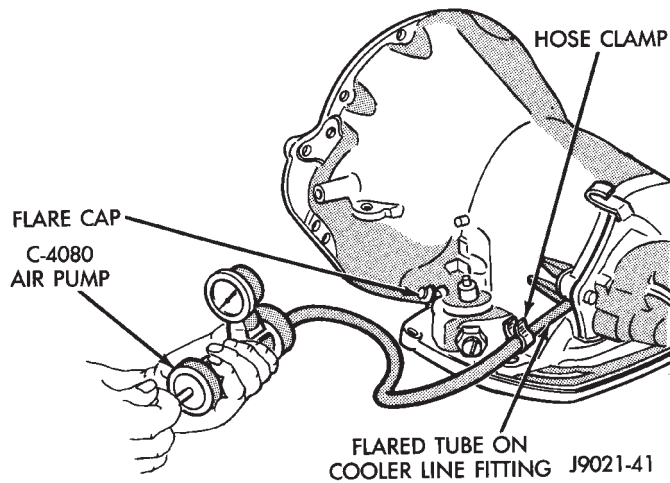

Fig. 16 Pressurizing Transmission
(2) Close off remaining transmission openings with rubber plugs, or stoppers. **Do not close off rear cooler line fitting. Air pump will be attached to this fitting.**
(3) Attach Air Pump 7700 to rear cooler line fitting. Connect length of copper tube to fitting. Then attach air pump hose to tube with hose clamp (Fig. 16).
(4) Apply thick soapy water solution to suspected leak areas.